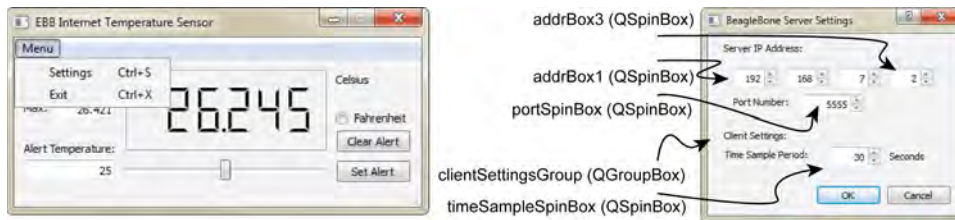

Figure 11-13: The Menu and the Server Settings dialog
1. A new dialog window is added to the application that can be used to enter the server IP address, the service port number, and the reading refresh frequency. This dialog is illustrated in Figure 11-13.